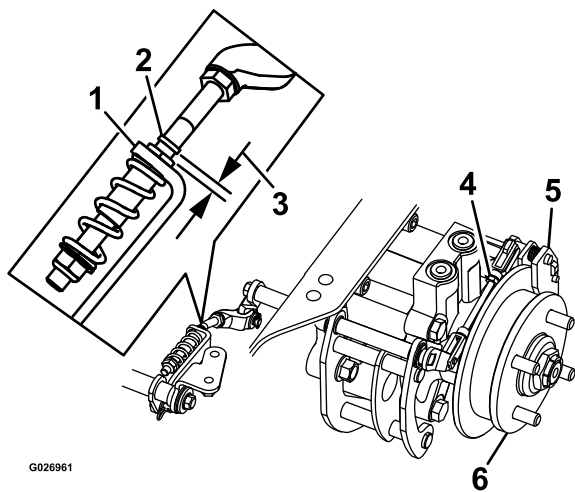

Figure 76
8. Check to see if there is a visible gap between the L-bracket and the linkage stop (Figure 76).